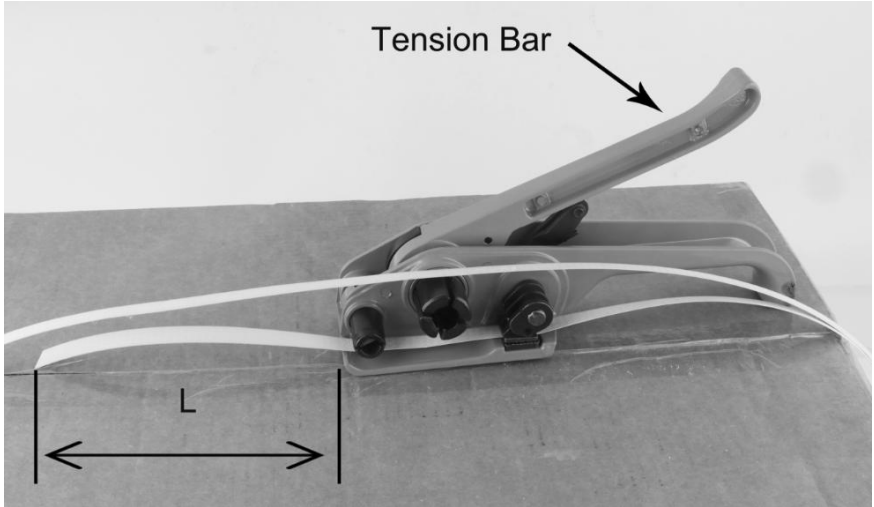

FIG.1
1.Strapping tensioner see FIG. 1, Press the tension bar and load strapping, $L \geq 3$ inch(8cm).